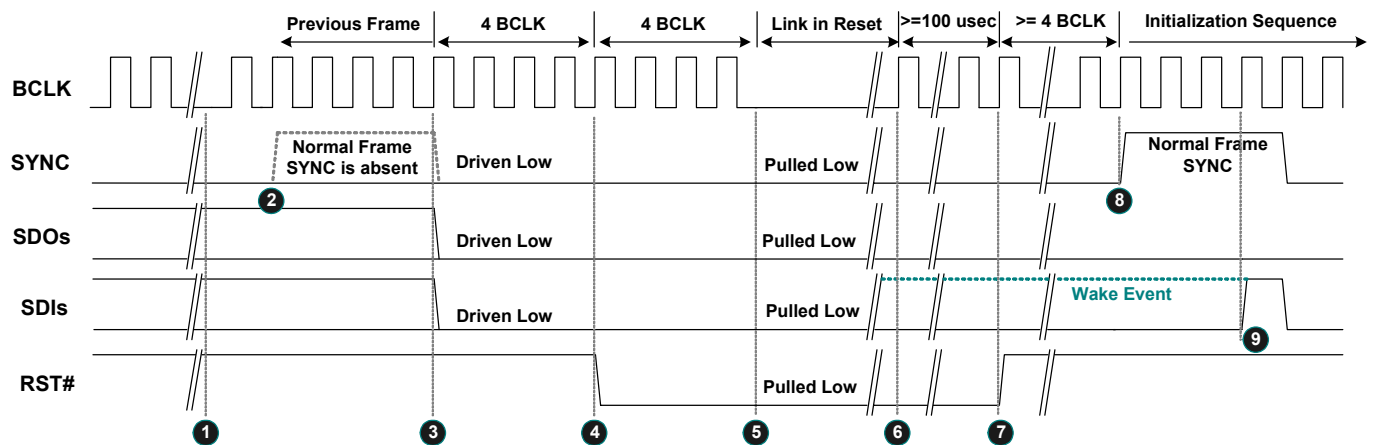

Figure 17. Link Reset Timing
3. Software initiates power management sequences. Figure 17, page 25, shows the 'Link Reset' timing including the 'Enter' sequence (❶~❷) and 'Exit' sequence (❸~❹)